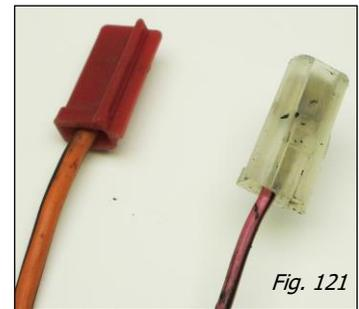

Fig. 121
- Begin by locating the two-connectors on the factory power lock/power window harness that connected to the accessory ports at the fuse block. This will be a pink/black wire with a single pin, clear connector and an orange/black wire with a red, single-pin connector. The pink/black provides power to the window switch. The orange/black provides power to the lock actuators in the doors (see Fig. 121).